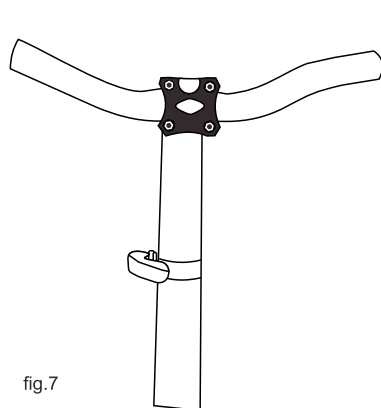

fig.7
Step 3: Handlebar & Handlebar Stem Assembly(refer to fig. 7)